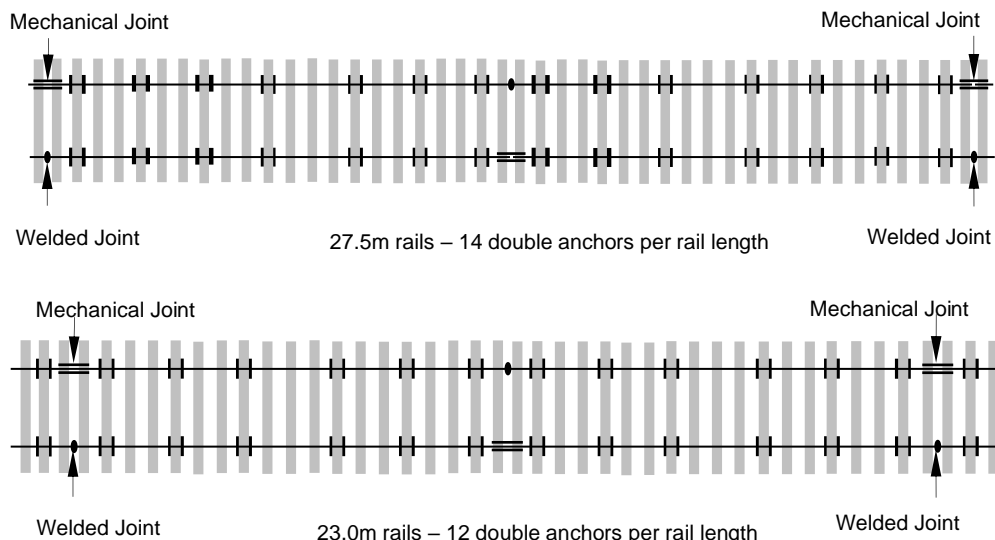

Figure 7 – Anchoring requirements for 23m and 27m rail lengths
- The anchoring for these on open ballasted tracks and on bridges shall be as shown in Figure 7..